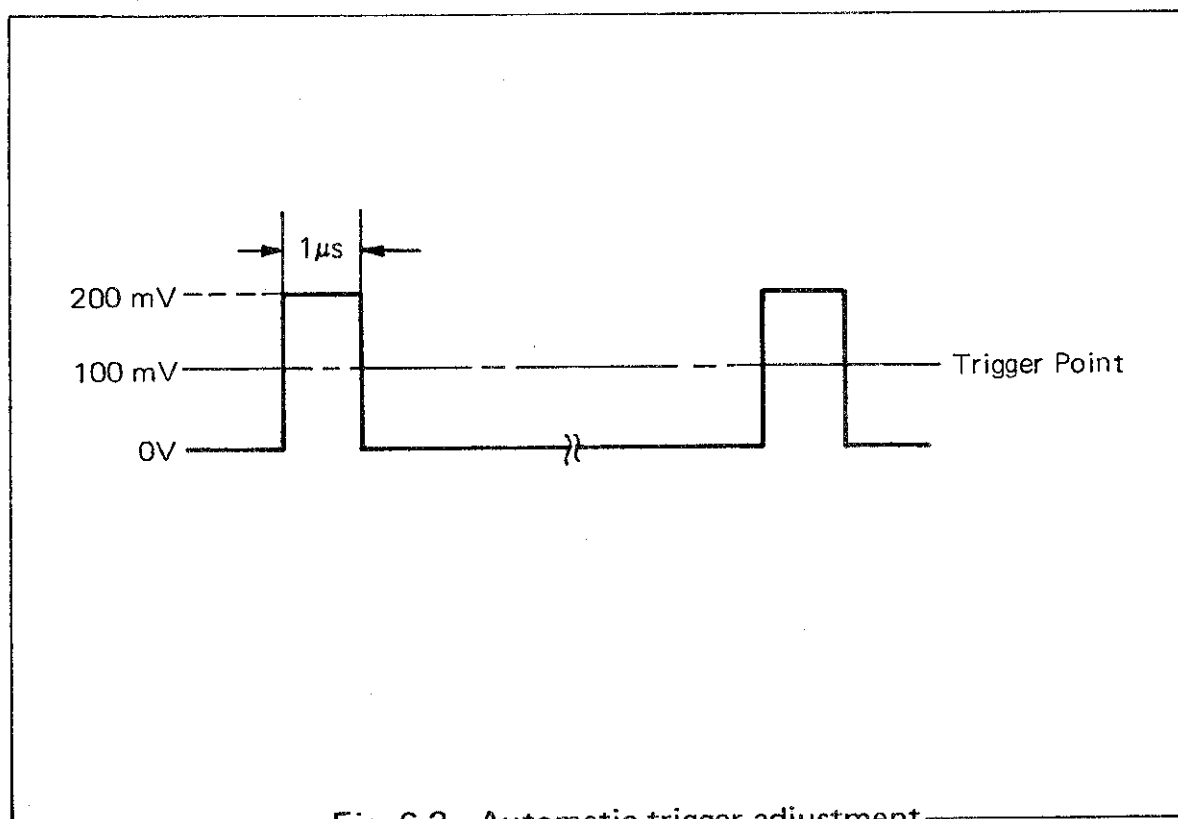

Fig. 6-2 Automatic trigger adjustment
- ② Apply the signal with the pulse generator of pulse width of $1 \mu\text{s}$, duty factor of 1/10, and amplitude of +200 mVp-p to **INPUT A** terminated with 50Ω .
- ③ Set **FUNCTION** to **FREQ A**, connect the digital voltmeter to pin 2 of J22 on the dummy board, and rotate R72 to adjust the voltage to 100 mV. (See Figure 6-2.)
- ④ Set **FUNCTION** to **FREQ. B**, connect the digital voltmeter to pin 3 of J22 on the dummy board, and rotate R77 to adjust the voltage to 100 mV. (See Figure 6-2.)
Since the reference oscillator used in this counter is not temperature compensated, the temperature rise caused by **POWER ON** and internal temperature change by power fluctuation affect the stability of the reference oscillator. Figure 6-2 shows the standard values of warm-up time and power fluctuation of this unit.